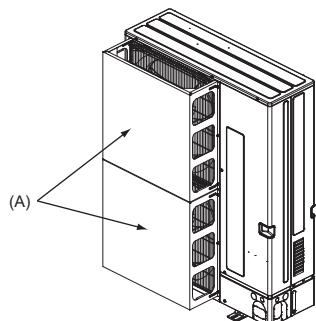
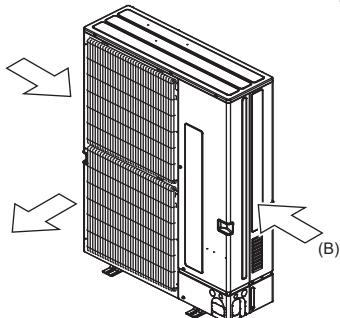

Fig. 2-4
Fig. 2-5
- (2) Install an optional air outlet guide and air guide if the unit is installed in a location where strong winds from a typhoon, etc. may directly enter the air outlet. (Fig. 2-4)
- (A) Air outlet guide
- (B) Wind direction
- (3) Position the unit so that the air outlet blows perpendicularly to the seasonal wind direction, if possible. (Fig. 2-5)
- (A) Air outlet